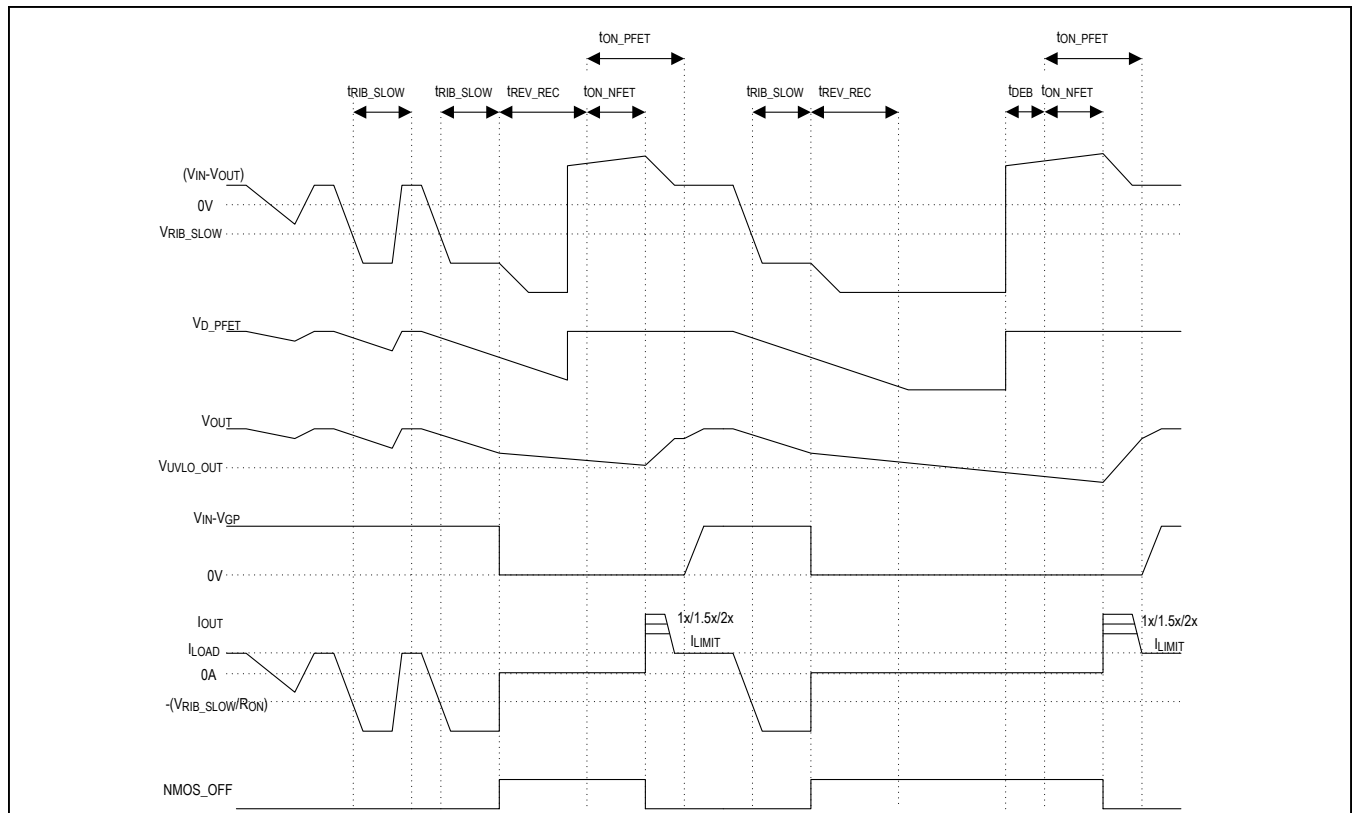
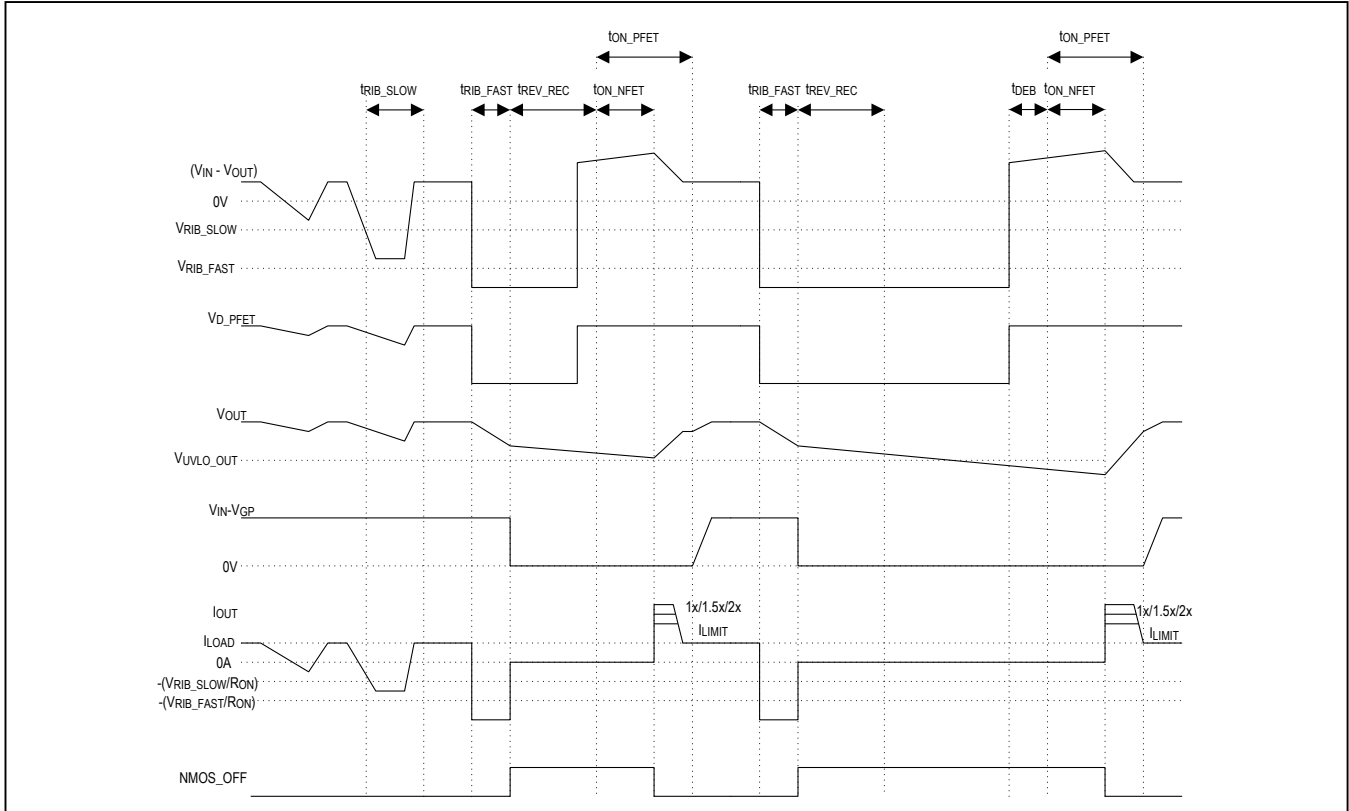

Figure 6. Slow Reverse-Current Fault Timing Diagram
Figure 7. Fast Reverse-Current Fault Timing Diagram
**Reverse-Current Blocking (Figure 6, Figure 7)**